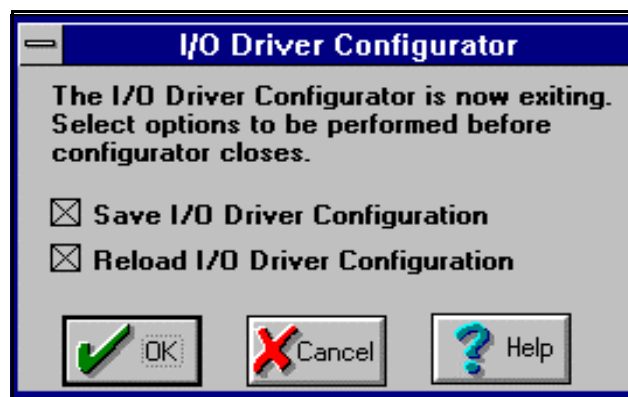

Figure 10: I/O Configurator - Exit Options
6. Click the Exit icon,  at the top of the I/O Driver Configurator dialog box and the FIX software prompts you to select your exit options, as shown in Figure 10 below.